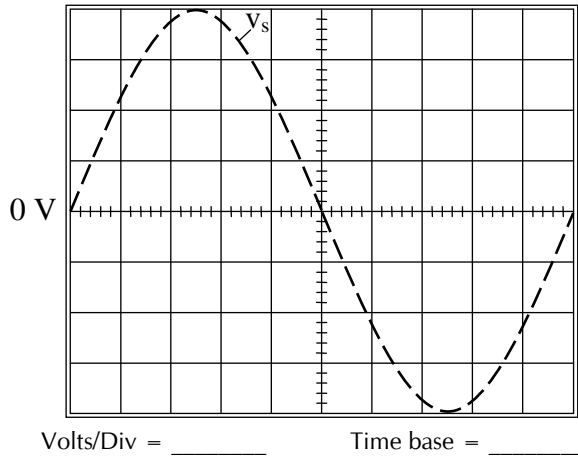

Fig. 3.11 Waveforms v_s and v_o (calculated)
3. Using the measured resistor values and V_T from Experiment 3.1.1, forecast the appearance of the output waveform v_o and sketch the result on Fig. 3.11. Use the same sensitivities employed in Step 4 of Experiment 3.1.1 and insert the maximum and minimum values of the waveform.
Are the waveforms of Fig 3.11 and 3.12 relatively close in appearance and magnitude? _____